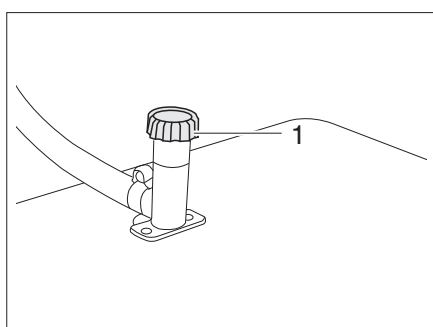

Fig. 95 20 l maximum filling
- Open the drain screw (Fig. 95,1). The fresh water is drained down to 20 litres.
- Close the drain screw (Fig. 95,1).